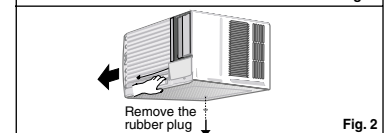

Fig. 2
1. Remove the rubber plug and slide the chassis out from the cabinet. (See Fig.2)
2. Pull the bottom window sash down behind the upper guide until it meets. (See Fig. 2)